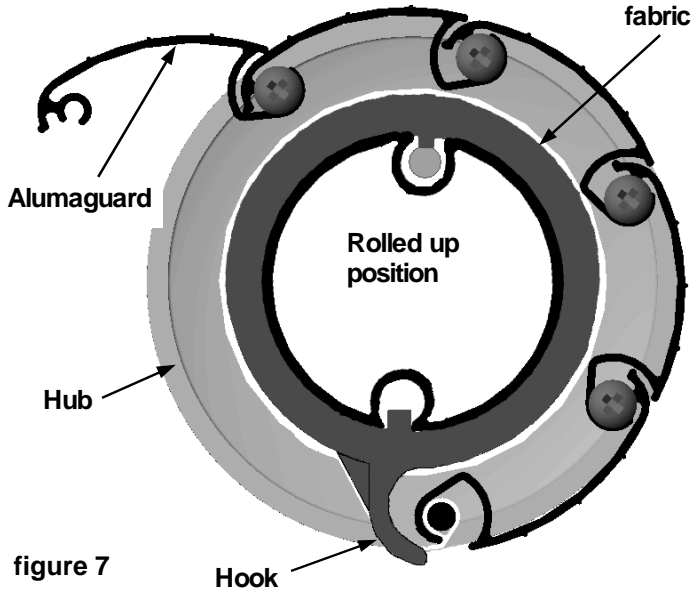

figure 7
**B. On Alumaguard awnings only, locate the Hook on the hub using the multiple teeth settings for positioning (as shown in figure 7) on each end of the roller assembly. With the awning fully retracted, extend the awning and verify that the Hooks are engaging the Alumaguard properly. When operating properly, the Hooks will engage the end of the Alumaguard cover and move it up and over the roller assembly.**